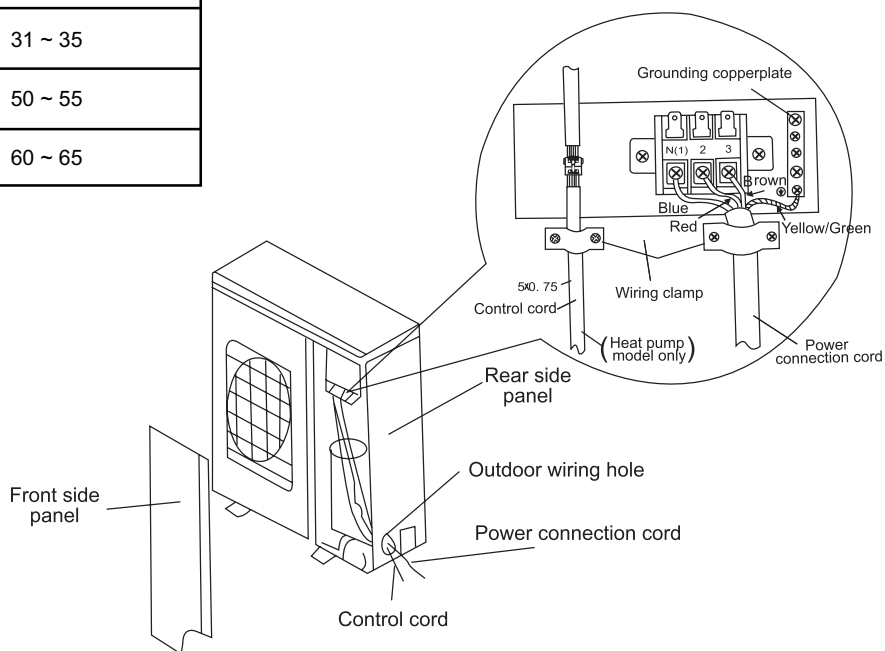

Figure 8
2. Remove the wire clamp and connect the end of the power connection cord with screws to the wiring terminal board as shown in figure 8.